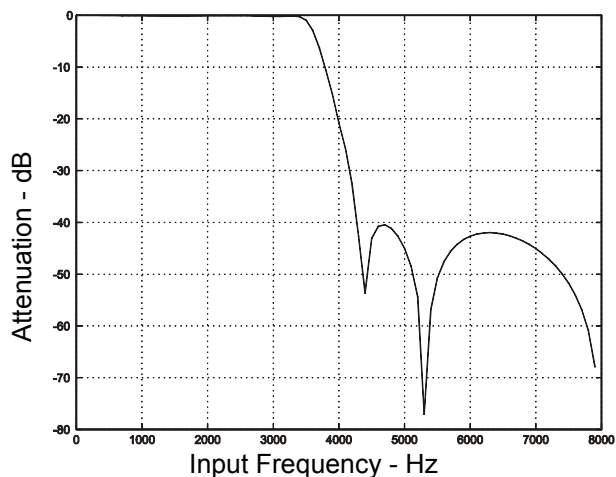
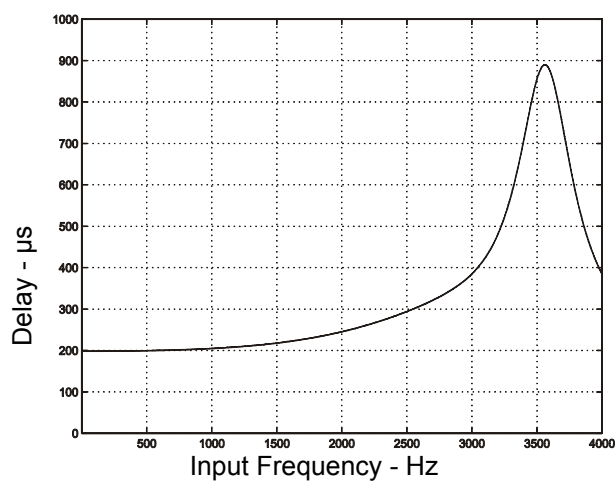

Figure 7. IIR Receive Filter Response
Figure 11. IIR Receive Group Delay
**Note:** Typical IIR filter characteristics for Fs = 8000 Hz are shown in Figures 7, 8, 9, and 10. Figures 11 and 12 show group delay versus input frequency.